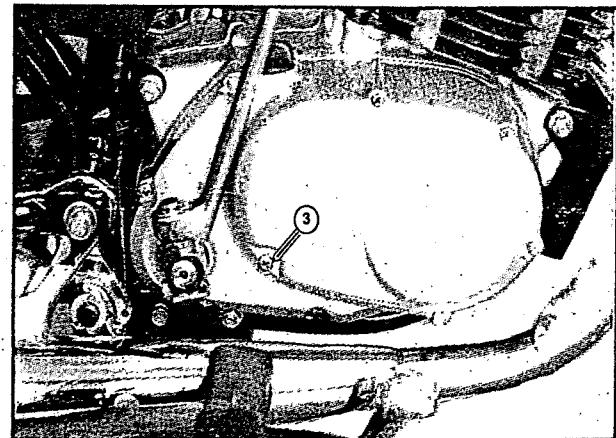

Fig 2.20
- Check the oil level with oil level screw (3) (fig 2.20)